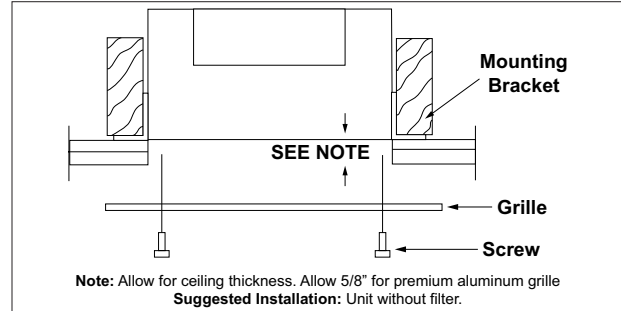
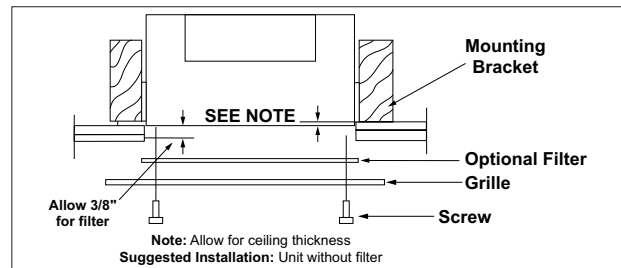

Figure 2
Figure 3
3. Adjust housing using the mounting bracket provided. To allow for the thickness of finished ceiling and grille, refer to *Figure 2*. If a unit is furnished with filters, allow 3/8". Refer to *Figure 3*.